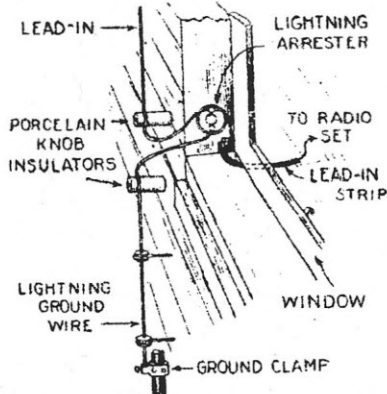
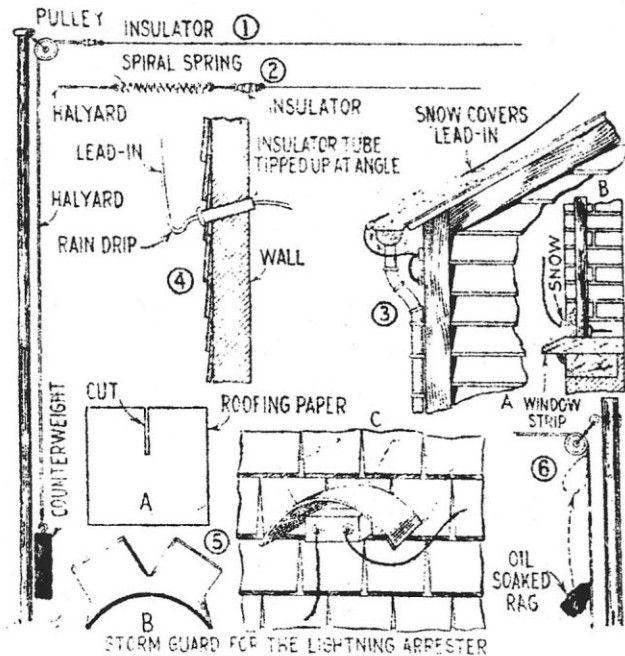

FIG. 10
FIG. 11
In Figs. 10 and 11 the details of fastening the lead-in wire to the wall, the installation of the lightning arrester and the ground connections are shown. Fig. 11 also illustrates the pulley and
weight. (1) as well as the coil or spiral spring, (2) methods of fastening to a support. A method using the porcelain tube for the lead-in is shown at (4) of Fig. 11. A method of protecting the lightning arrester from the weather is shown at (5) of Fig. 11. At (6) an oil soaked cloth is used to keep the wire and pulley well oiled. Keep your lead-in away from rain spouts, etc. Snow and dead leaves or obstructions as at (3) of Fig. 11 can collect around the lead-in and may short it or cause noise. If it is necessary to cross a drain pipe or gutter, use a soldered window strip and push it under the drain pipe or gutter as at B of Fig. 11.